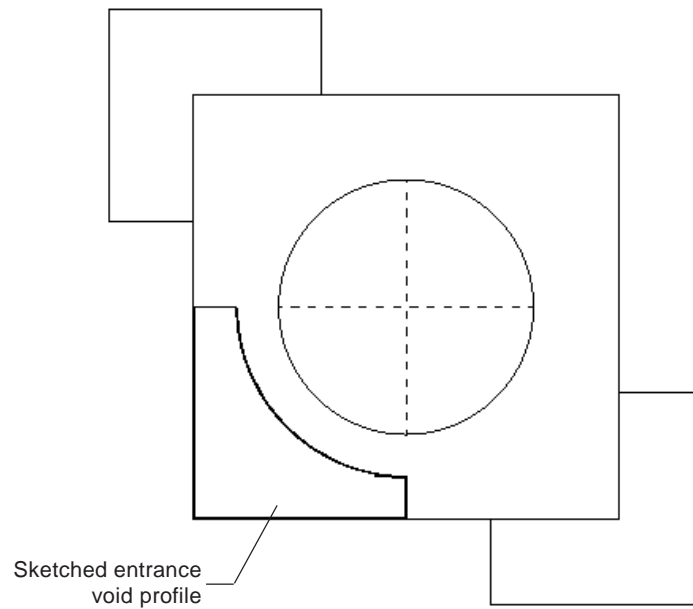

Figure 9-45 Sketching the cutting geometry
17. Sketch the profile of the cutting geometry as shown in Figure 9-45.